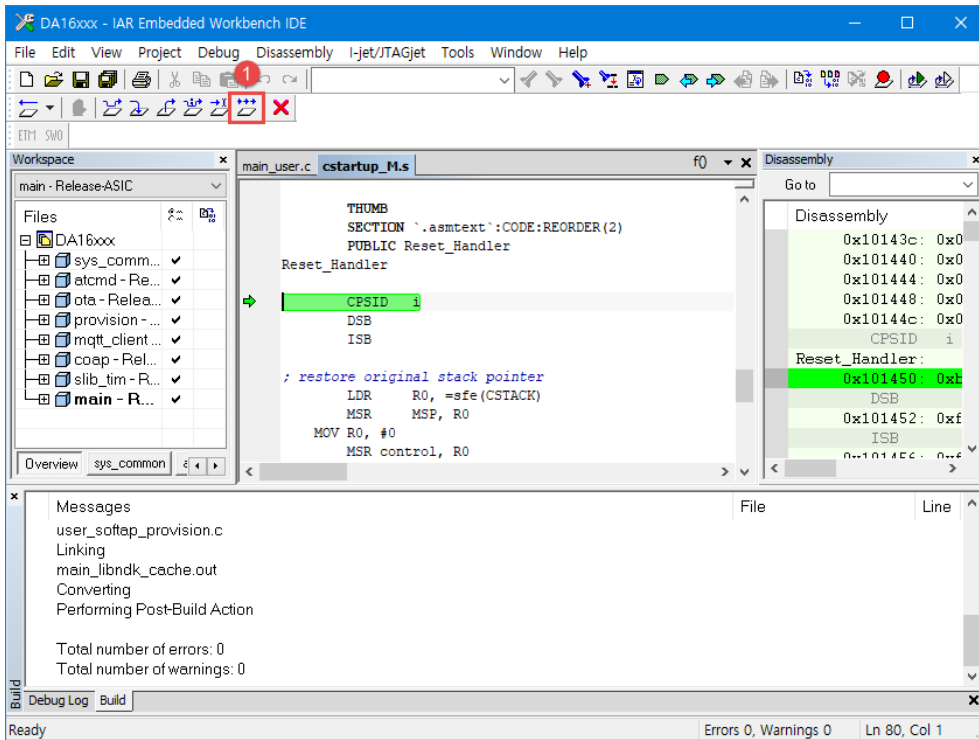

Figure 36: Download and Debug Windows
6. Click the **Go** button (1). See Figure 36.